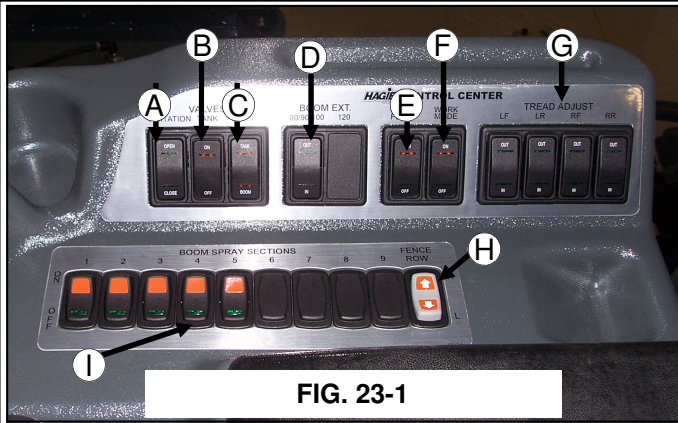

FIG. 23-1
**AGITATION SWITCH-** The agitation switch (fig. 23-1, item A) controls the rate of flow through the sparge system. For more information on the agitation system, refer to OPERATING SYSTEMS section D on the Spray Systems.
**TANK SWITCH-** The tank switch (fig. 23-1, item B) controls the solution tank valve. This switch must be on to spray. For more information on the
**RINSE SWITCH-** The rinse switch (fig. 23-1, item C) is used when you wish to rinse the solution tank or the booms. For more information on how to use the rinse system, refer to OPERATING SYSTEMS section D on the rinse system.
**BOOM EXTENSION SWITCH-** Boom extension (fig. 23-1, item D) switches are used when folding and unfolding the booms. Refer to OPERATING SYSTEMS section C on spray booms.
**WORK MODE SWITCH-** The work mode switch (fig. 23-1, item F) is a safety switch. There are systems connected to this switch that will not function if the switch is not ON and this switch can not be turned on if certain conditions exist. You can not turn the switch on if the machine is not in neutral. The switch controls the functions of the spray system and the booms. This was set up to protect you, the operator, and others from accidentally engaging the spray system while transporting. Be sure that this switch is on before you intend to engage the spray system.
**TREAD ADJUST SWITCH-** The tread adjust switches (fig. 23-1, item G) are used to hydraulically adjust the tread width. These switches will not do anything if you do not have hydraulic tread adjust. For more information on hydraulic tread adjustment, refer to OPERATING SYSTEMS section C on the hydraulic system.
**FENCE ROW SWITCH-** The fence row switch (fig. 23-1, item H) is for the selection of right or left fence row spray nozzle. More information on the fence row can be found in OPERATING SYSTEMS section D on the spray system.
**BOOM SOLUTION VALVE SWITCH-** The boom solution valve switches (fig. 23-1, item I) each control a valve located on the transom and the booms. The valves control the flow of solution through the boom. The boom is broken down into 5 sections (3 sections on a 60' boom), the far left tip being the beginning of section one. See section D under OPERATING SYSTEMS on the spray system for more information.